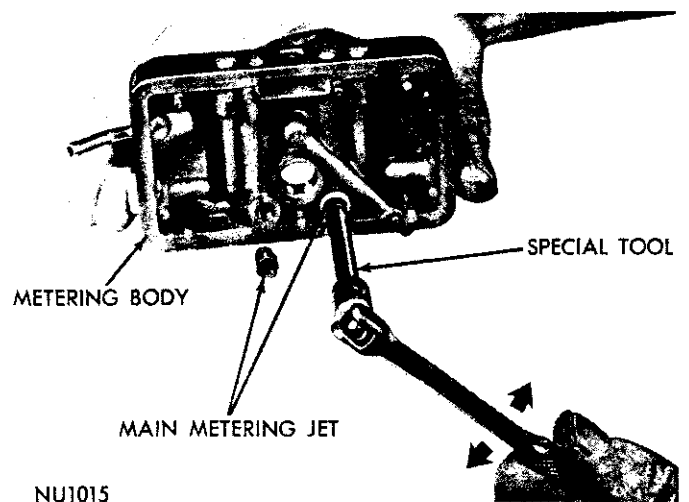

Fig. 16—Removing or Installing Main Metering Jets
(1) Install main metering jets (No. 63) in metering body, using Tool C-3747. Tighten securely (Fig. 16).